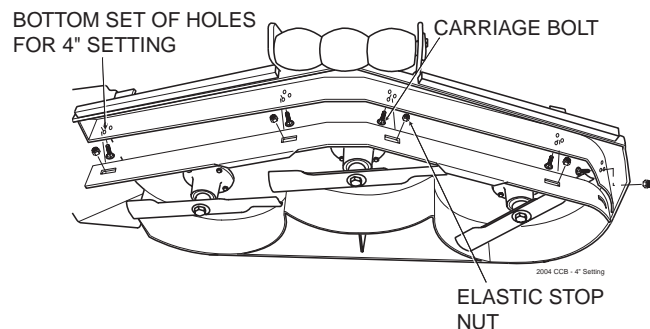

Figure 12. 4" Custom-Cut Baffle Position
- C. 4" Position - baffle is installed using the bottom set of holes on the front baffle welded inside the cutter deck. (See Figure 12). Placing the baffle in the 4" setting will enhance fall cutting (leaf pickup) and reduce cutter deck "blowout".